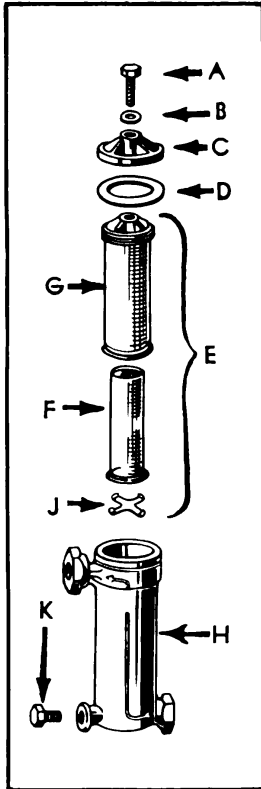

FIG. 24 Disassembly of Fuel Strainer
In such a case, first stop the engine, then with a wrench remove the hexagon cap screw (A) (See Fig. 24) and washer (B) at the top of the fuel strainer body. Lift off cover (C) and gasket (D). Remove screen assembly (E) by unscrewing it from the inside of the strainer body. This assembly consists of inner and outer screens (F and G) which may be separated after sliding off the bottom clip (J). Clean both screens. The brass plug (K) near the bottom of the strainer should be removed to permit flushing the strainer body (H). Replace plug (K), screw screen assembly (E) in place, replace gasket (D) and cover (C), and tighten down with cap screw (A) and washer (B). Make sure that the cap is tight to prevent air leaks in the fuel suction line.